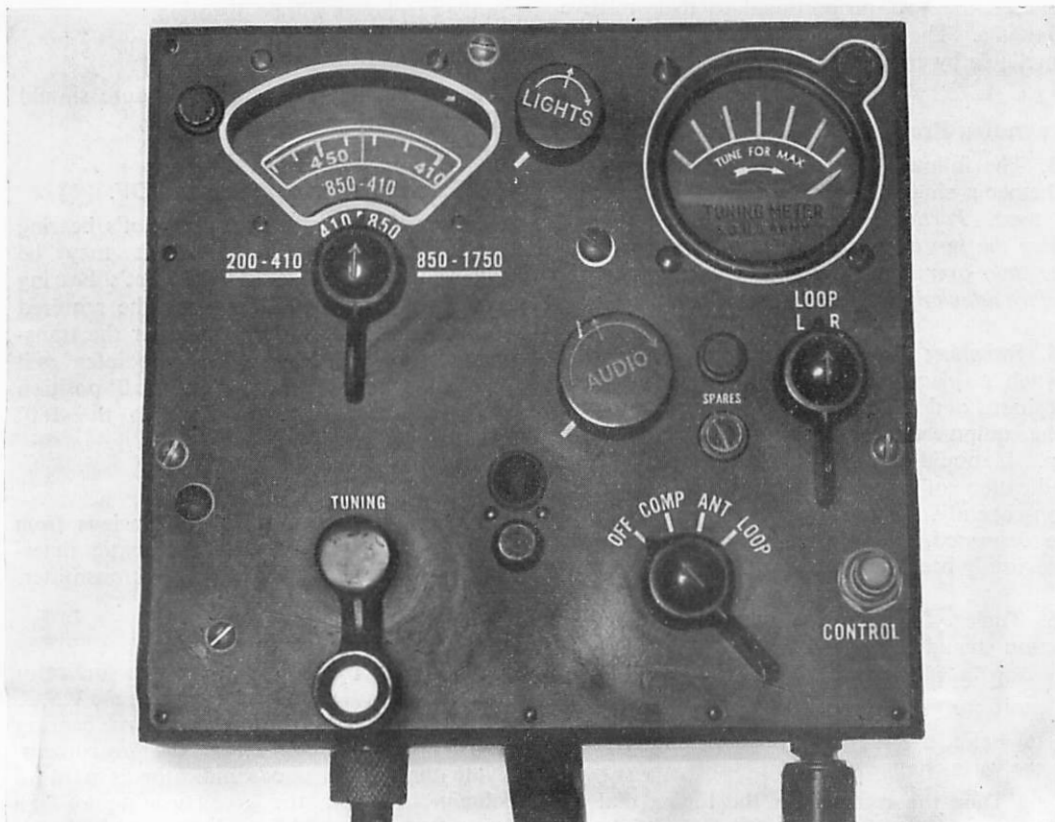

Fig. 4. Radio Compass (S.C.R. 269G) Control Box.
21. **Remote Control Boxes.** Two radio control boxes are provided for each radio compass installation where dual remote control is required. The controls provided on each remote control box (Fig. 4) are :—
(c) *Tuning Crank.* This rotates the dial in the tuning window (Fig. 4) to bring the required frequency under the reference line.